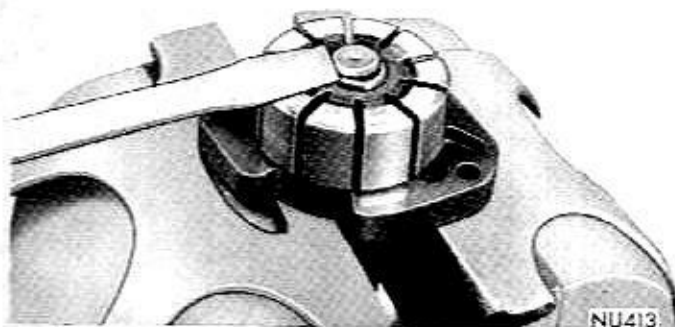

Fig. 10—Removing Full Diameter Lock Ring
(13) If necessary to disassemble flow control valve for cleaning, see "Flow Control Valve Disassembly".
(14) After lifting pressure plate and cam ring from rotor, remove ten vanes from slots in rotor.
(15) Clamp drive shaft in soft jawed vise, with rotor and thrust plate facing up.
(16) Remove rotor lock ring, pry ring off drive shaft using a screw driver (Fig. 10). Exercise care to avoid nicking the rotor end face. Discard ring.
(17) Slide rotor and thrust plate off of shaft and remove shaft from vise.